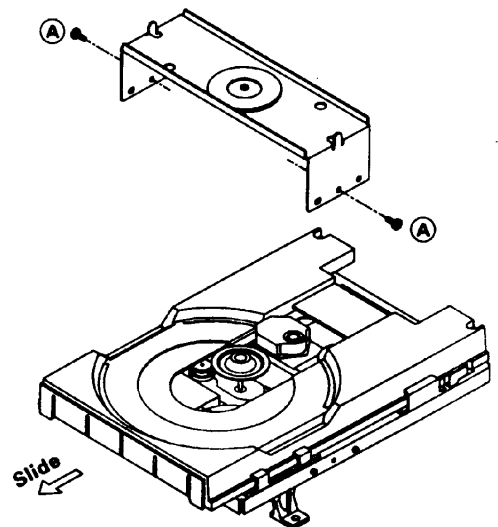

Figure 4
2. Remove two screws (A) holding the clamper base and slide the tray as shown.(See Figure 4.)